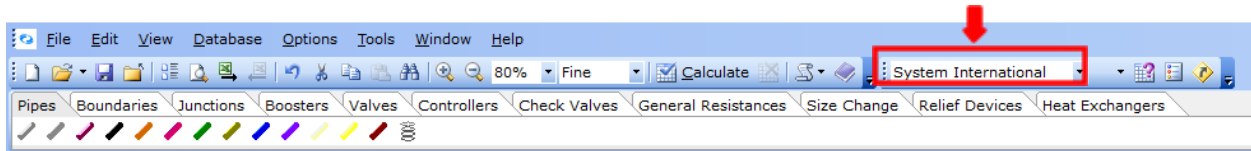

Figure 17: Unit Selector.
17. View the top portion of the user interface. The Units selector is on the middle portion (Figure 17):